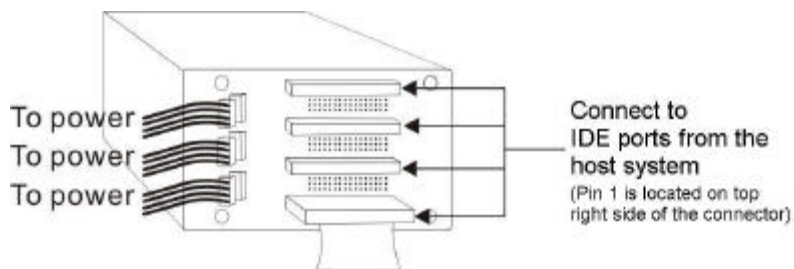

Figure 2
2. Connect the cables as shown in figure 2. When connecting cables to the IDE bus make sure the numerical pins are lined up with the connector, else you may damage the hard disk drive.